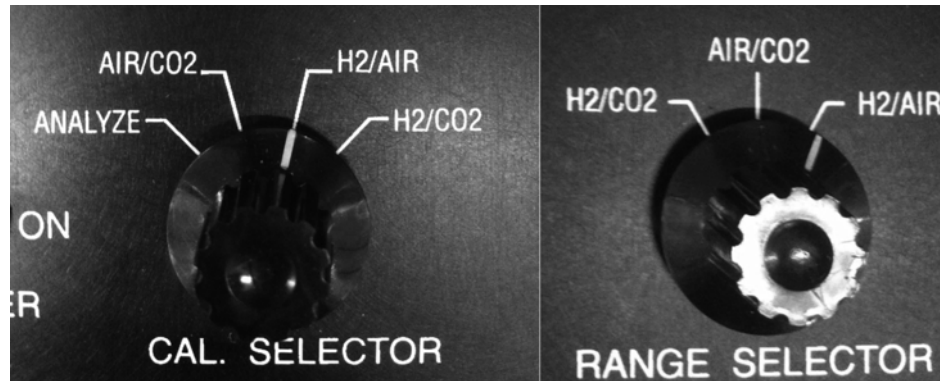

Figure 3-6: Cal Switch in H₂/AIR Position
- Set the calibration switch to the H₂/air position and verify the range selector is on H₂/air. See Figure 3-6